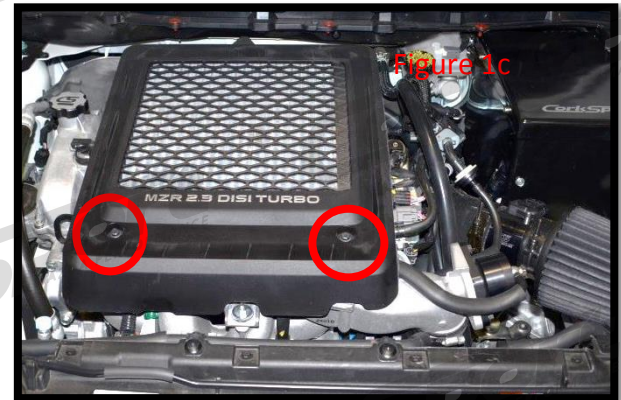
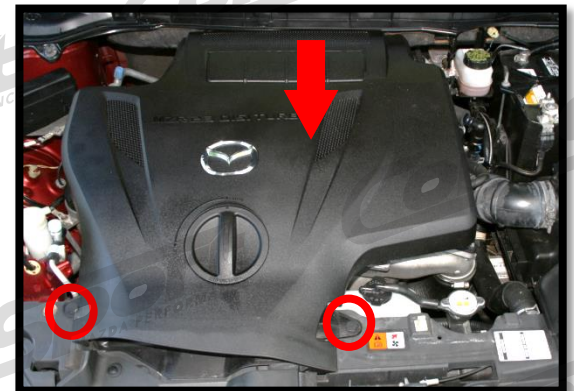

Figure 1b
Figure 1c
- c) Remove the intercooler cover by removing the two (2) 10 mm bolts (red circles in Figure 1b)
-  For CX7, you will first need to remove the vent shroud by unclipping the two push style clips (shown by the red circles in Figure 1c) and pulling towards the front of the engine bay.
- h) Install the intercooler cover shown in Figure 1b for Mazdaspeed3 and Mazdaspeed6. Cover shown in Figure 1c for CX7.
- c) **Remove the intercooler cover** by removing the two (2) 10mm bolts (red circles in Figure 1b) (MS3 cover shown) using the 1/4" drive ratchet and 10mm socket.
**For CX7**, you will first need to remove the vent shroud by unclipping the two push style clips (shown by the red circles in Figure 1c) and pulling towards the front of the engine bay.